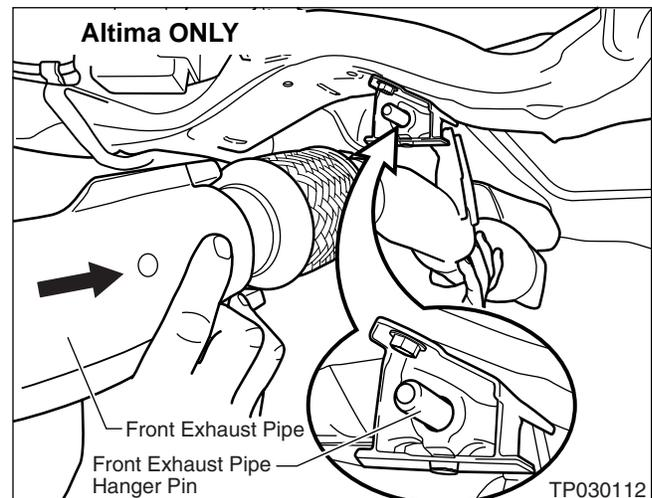

Figure E12
16. **This Step For Altima ONLY:** Slide the Front Exhaust Pipe Hanger Pin out of the Front Exhaust Pipe Hanger (see Figure E12). Remove the Exhaust Pipe from the vehicle.